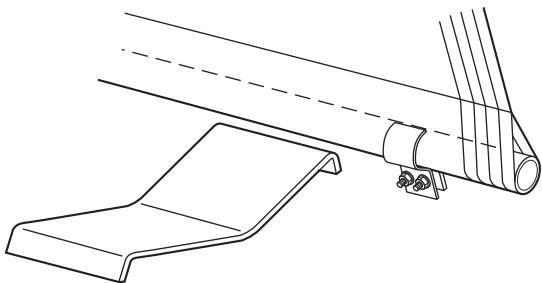

Figure 22
16) See Figure 22. Orient the tarp cradles (3) one third in from each end of the tub and 1/2" below the fixed tube. Mark the tub with the bracket location.